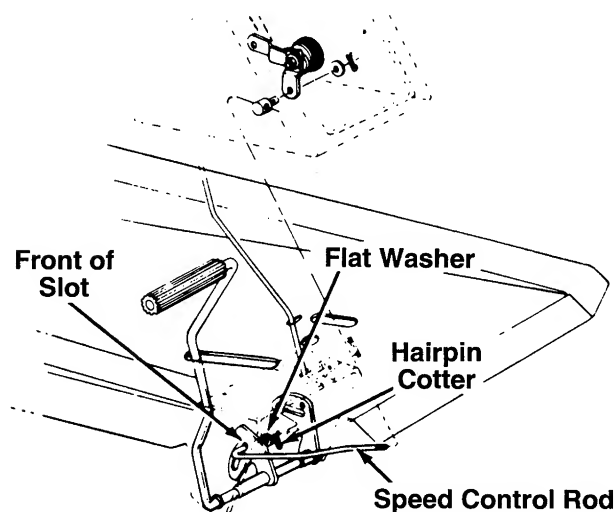

FIGURE 19.
7. Disconnect the speed control rod by removing the hairpin cotter and flat washer. See figure 19.
9. Adjust the rod by threading it in or out of the ferrule until it is all the way to the front of the slot as shown in figure 19.